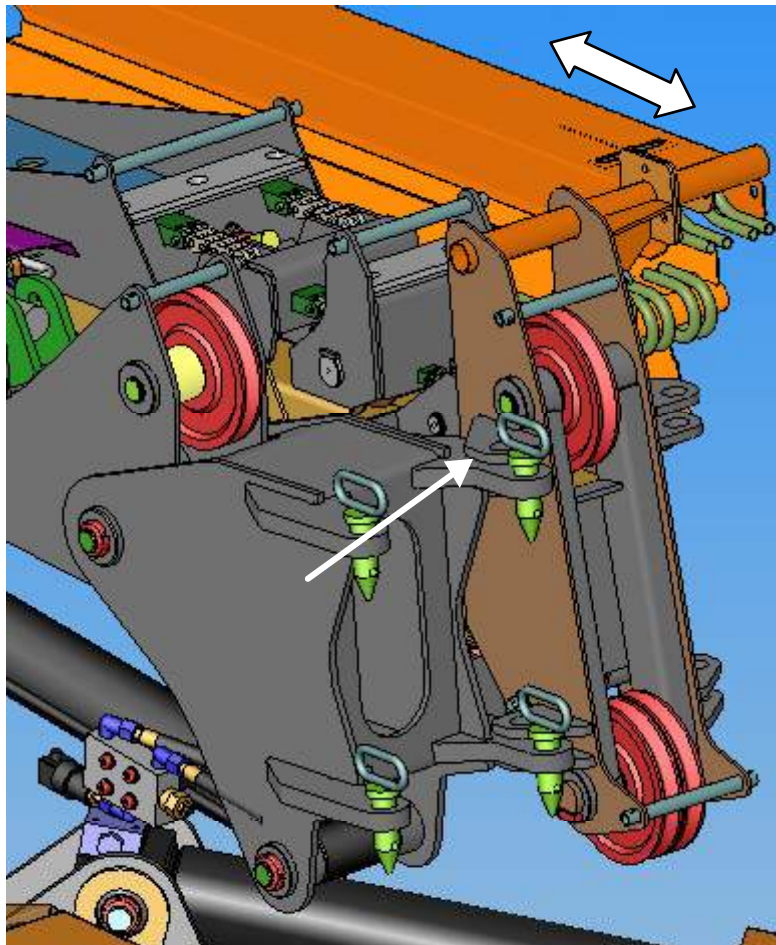

Fig. 1
- D. Use the boom extension to centre the hole and insert the two right pins (fig. 1)